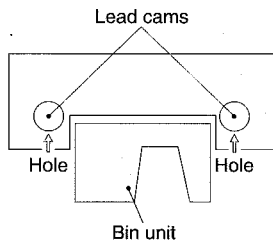

Figure 3-217 (top view)
- 3) Set the two holes of the lead cams as indicated in Figure 3-217.